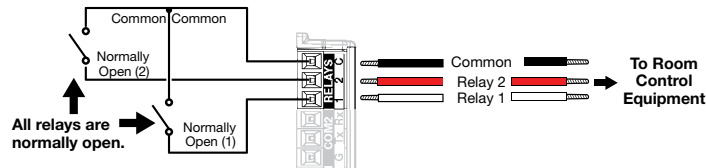

Figure 13. Relay Ports
To use a single relay port connect Pin 3 (Common) and either Pin 1 (Relay 1) or Pin 2 (Relay 2) to the device being controlled. To use both relay ports, connect the pins as shown in figure 13. Pin 3 (C) must be connected to both devices being controlled.